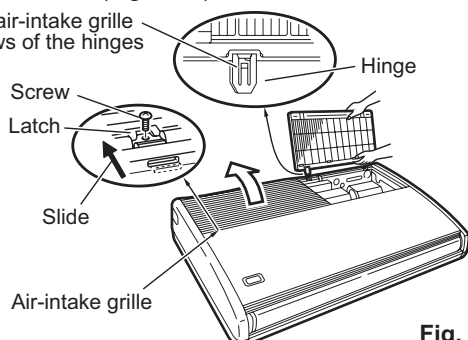
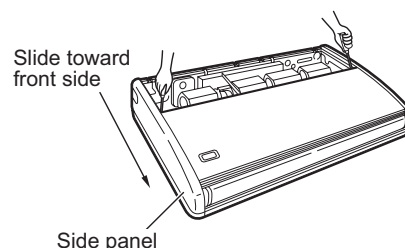

Fig. 2-60
Fig. 2-61
- Before suspending the indoor unit, remove the 2 or 3 screws on the latch of the air-intake grilles, open the grilles, and remove them by pushing the claws of the hinges (Fig. 2-60). Then remove both side panels sliding them along the unit toward the front after removing the 2 attachment screws. (Fig. 2-61)